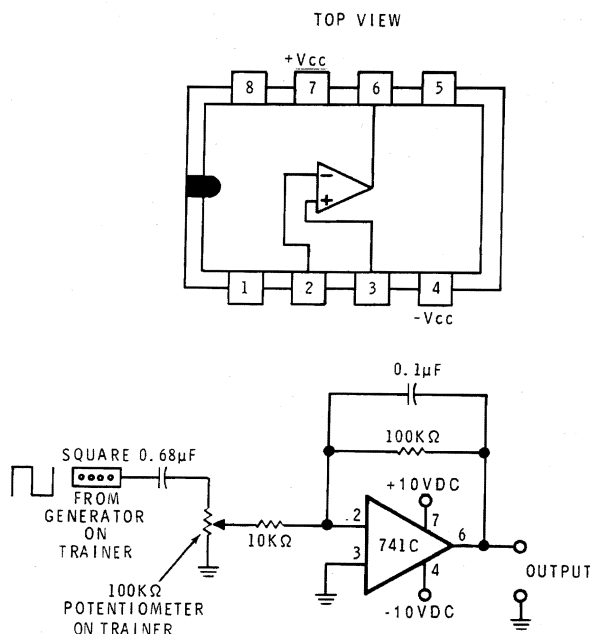

Figure 6-70
- Construct the circuit shown in Figure 6-70. Set the generator frequency to 1 kHz.